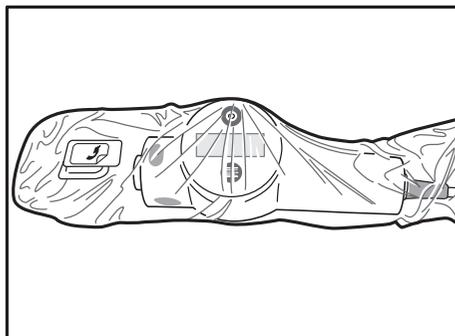

Figure 6. Positioned Bag
7. To position the bag, stop advancing the MDU5 PLUS into the bag as soon as a snug fit is obtained. The sterile operator does not need to advance the MDU5 PLUS all the way to the bag’s faceplate. It is normal to have space between the nose of the MDU5 PLUS and the faceplate on the bag (Figure 6).